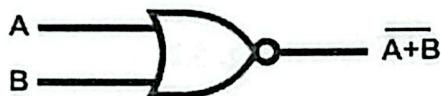
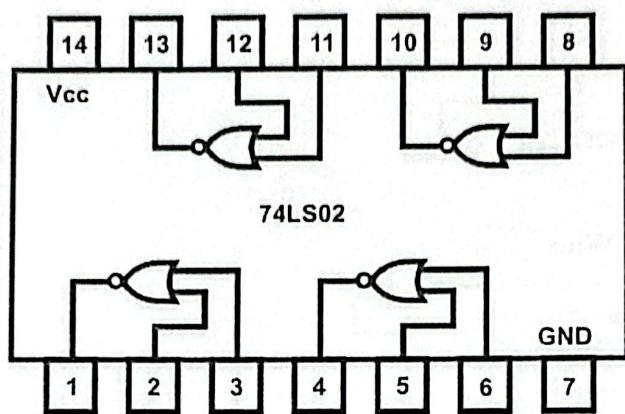

Fig. 6.1
Fig. 6.2
4. Wire the circuit according to the diagram in figure 6.1 by consulting NOR gate IC's data sheet in fig 6.2.